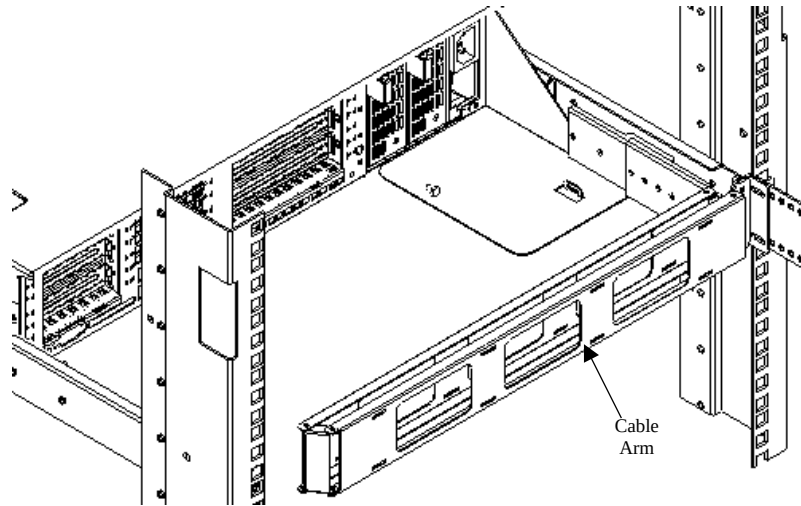

Figure 2-25. Checking the Installed Cable Arm
7. Press in on the rail release latches and slowly push the server in and out of the system rack several times. Ensure proper movement of the cable arm. Adjustment of the cable arm hinged brackets may be necessary to attain smooth operation. Tighten all screws. Ensure the server can be fully closed and secured to the rack. See Figure 2-25.